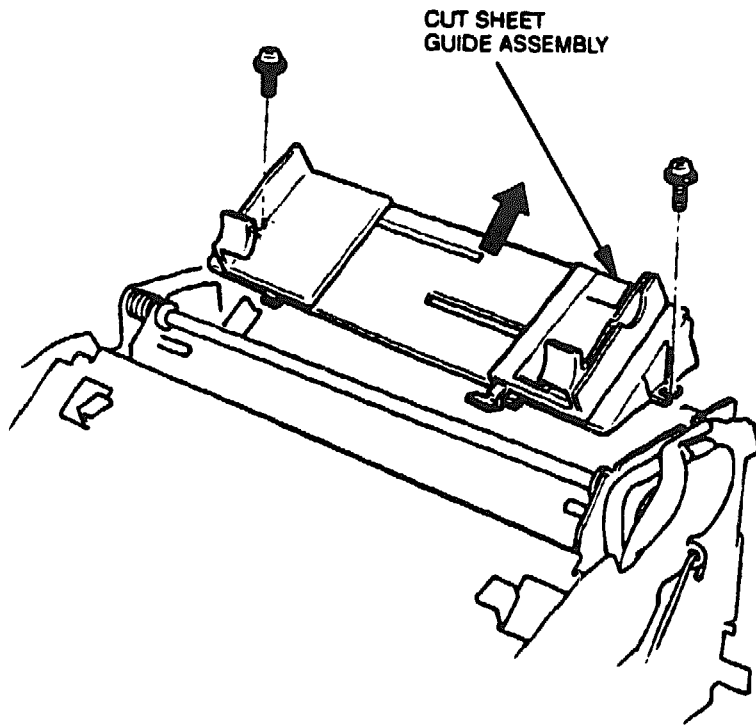

Figure 6-24 Cut Sheet Guide Assembly Removal
6. As shown in Figure 6-24, remove the two screws that secure the CSG assembly to the CSG base frame. Carefully lift the CSG assembly up and away from the printer.